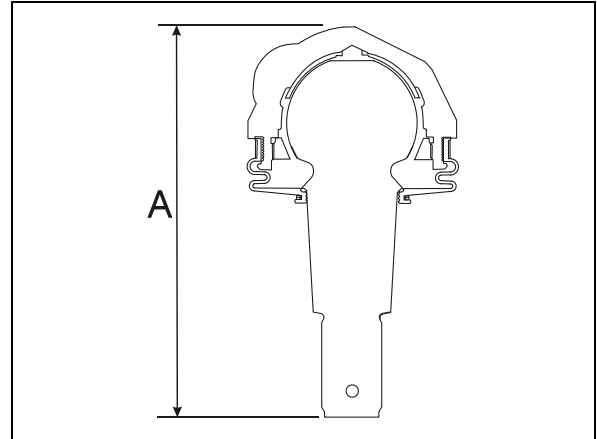

FIGURE 33: UPPER A-ARM BALL JOINT
2. Using a caliper, measure dimension A on figure 33.